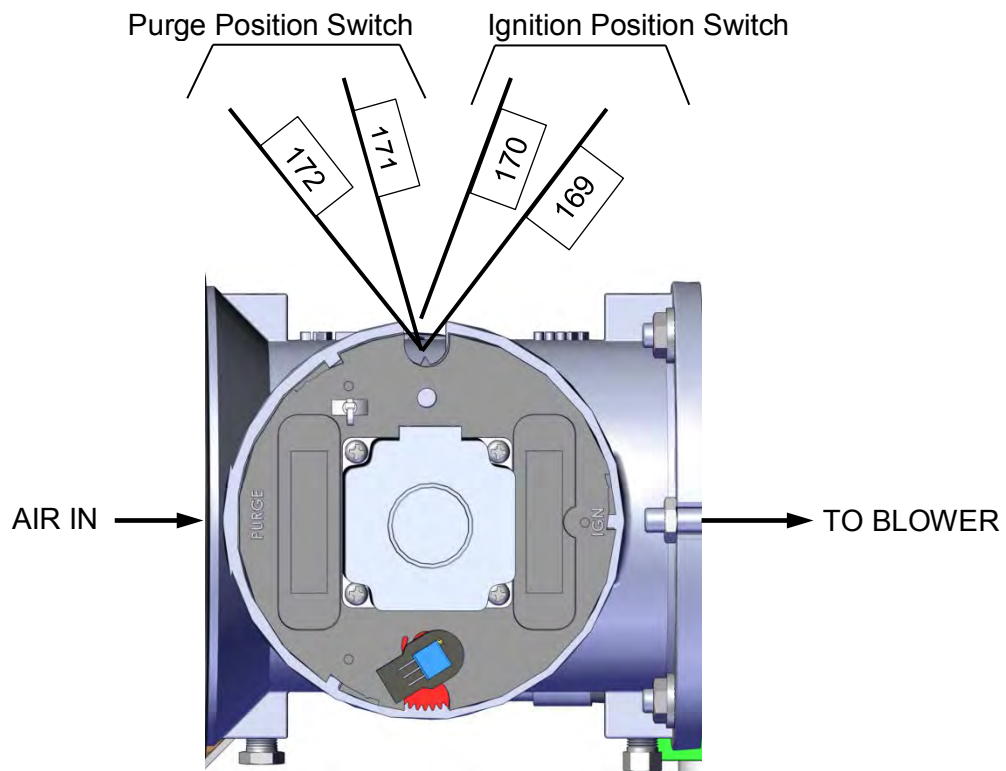

Figure 6-8: Air/Fuel Valve Purge and Ignition Switch Locations
4. Remove one of the two wires (#171 or #172) from the **Purge** switch (Figure 6-8).
4. Remove one of the two wires (#169 or #170) from the **Ignition** switch (Figure 6-8).